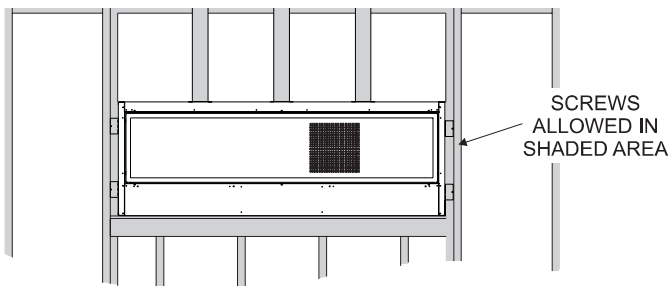

Figure 46
- Screws are allowed in framing and top mounting brackets. No screws are allowed into the fireplace face. **See Figure 46.**